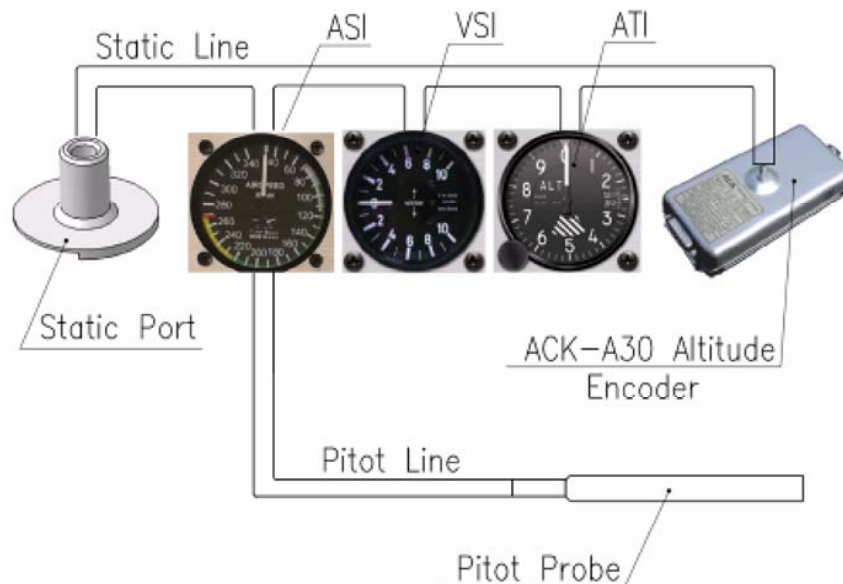
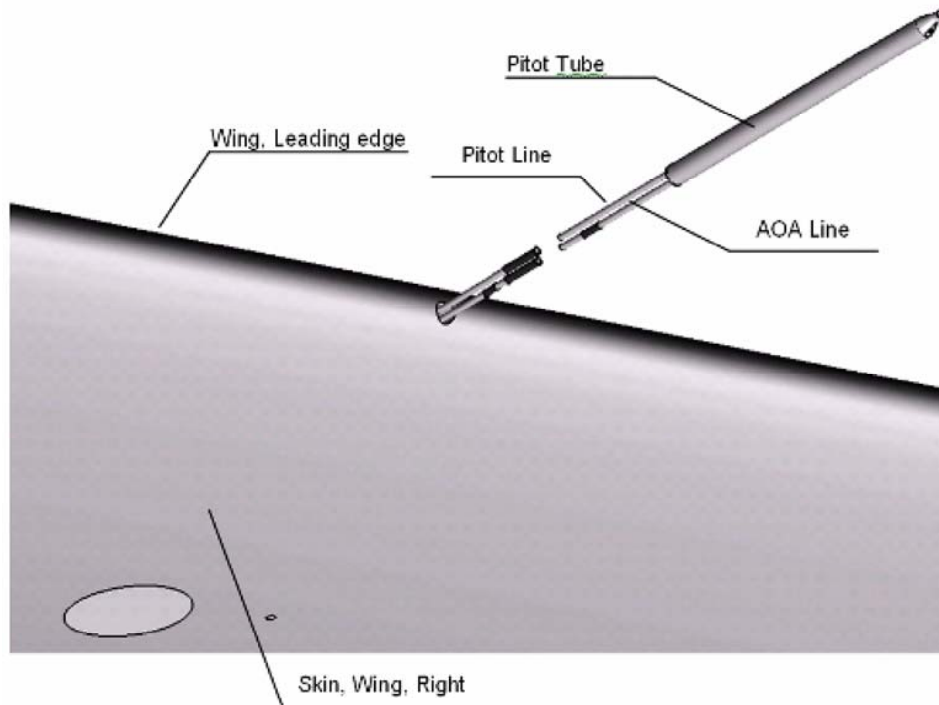
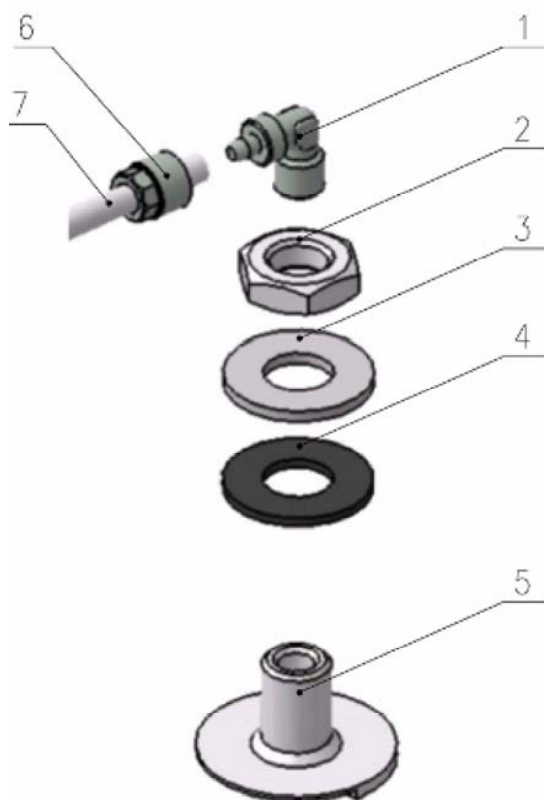

Fig. 34-20-2
Fig. 34-20-4
Fig. 34-20-5
In this case air data is provided to analog instruments (Fig. 34-20-2):
1	Take the Pitot tube out of the wing, Pitot tube is removed by hand pressure ahead from the wing leading edge as shown Fig. 34-20-4.
2	Disconnect Pitot/AOA pressure lines as shown Fig. 34-20-4.
1	Disconnect Static pressure line by unscrewing captive nut M12 item 6 as shown Fig. 34-20-5.
2	If needed demount parts as shown Fig. 34-20-5.
1	Take the Pitot tube out of the wing, Pitot tube is removed by hand pressure ahead from the wing leading edge as shown Fig. 34-20-4. Clean it (remove insect, debris and so on) using a stick. Disconnect Pitot/AOA pressure lines
2	Disconnect Static pressure line from Static Port by unscrewing captive nut M12 item 6 as shown Fig. 34-20-5
8	Connect Pitot/Static pressure lines to ACK-A30 altitude encoder, instruments, static port, Pitot tube as shown on Fig. 34-20-2, Fig. 34-20-4, Fig. 34-20-5 and Fig. 34-20-6.